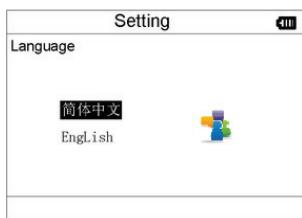

Figure 3-25 Language Setting
1. On system setting screen, select "Language" to enter language information screen, as shown in Figure 3-25.